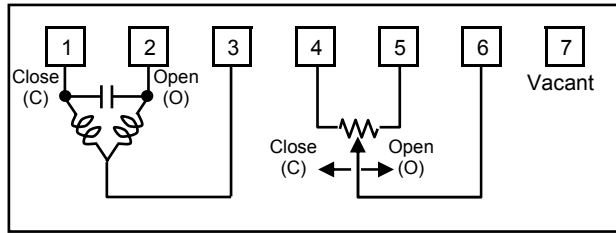

Figure 9. Terminals connection of Model VY511XL (Nominal 135 Ω feedback potentiometer type)
- For 2-10 V DC input, 0-10 V DC input, and 4-20 mA DC input types, make sure the polarity of the power supply and 2-10 V DC feedback output, referring to Figs 9 to 13. Incorrect wiring may result in PCB (print circuit board) burnout.
- 3) Correctly connect the wires to the terminals with M3.5 screw terminal lugs, referring to Figs 9 to 26.